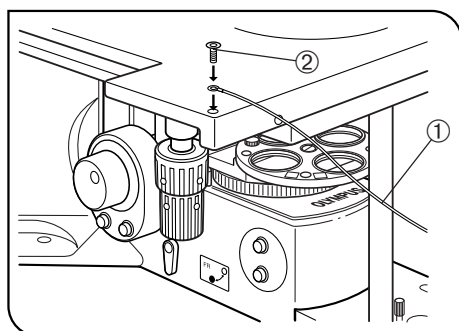

Fig. 13
### 3 Setting the Grounding (Fig. 13)
- Prepare a grounding wire ① and M4 screw ② and attach grounding as shown in Fig. 13.